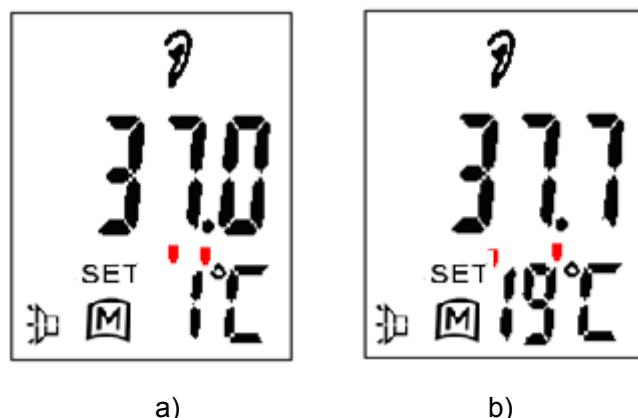

Figure 12
In measuring mode press I/O button ⑤ LCD will display the last reading (Reading 1) (see figure 12 a)) for example. Press START button ⑥ consecutively to recall the other 18 readings in succession. (see figure 12 b))